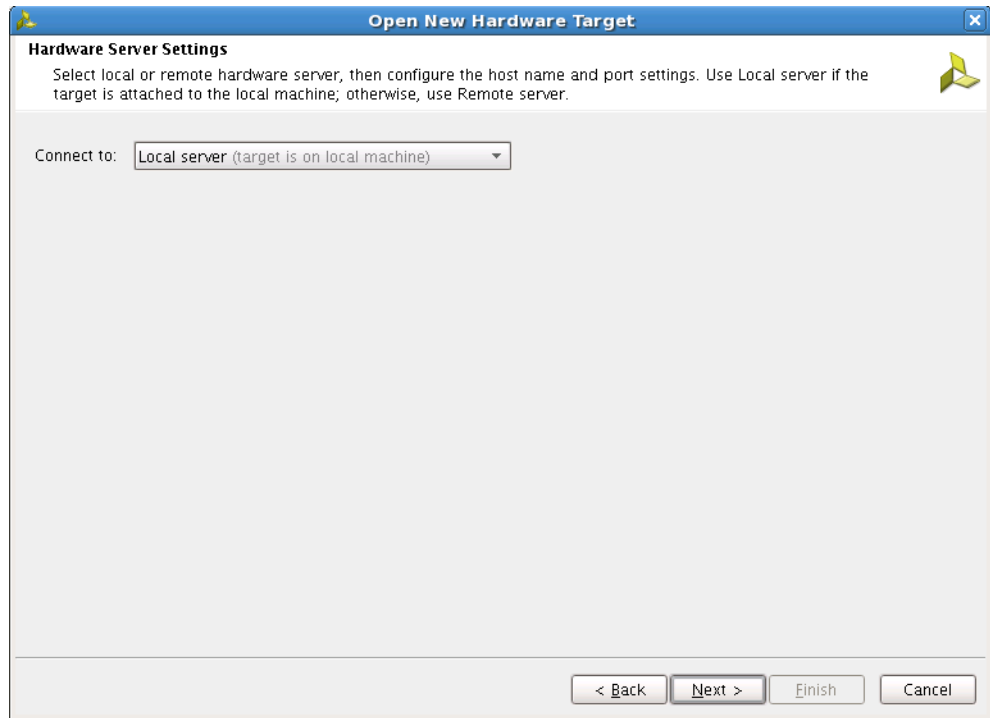

Figure 20: Hardware Server Settings
3. Select **Local server** and click **Next** (Figure 20).